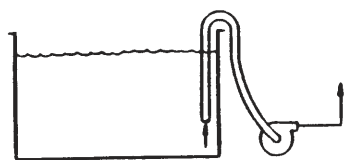

Figure 2
2. Refer to Figure 2. Liquid level is above pump and pump suction line goes over the side of the tank. It is now necessary to prime the pump. If piped in place, liquid for priming may be introduced through the discharge line. If hose connected, liquid for priming may be introduced through the suction hose. Be sure that air is not trapped in the hose. Fill hose to overflowing, place hand over open end of hose and submerge into tank. Start motor and wait a few moments before removing hand. If a valve is used on the discharge line, keep it closed until motor has been run momentarily. Open the valve slowly, eliminating all air in line.